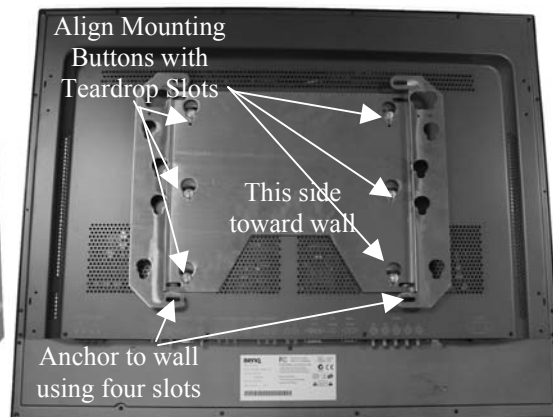

Figure 5
6. With the aid of another person, lift the display up to the mount, align the mounting buttons on the display with the teardrop slots in the mount, and set the display into place (see Figure 5).